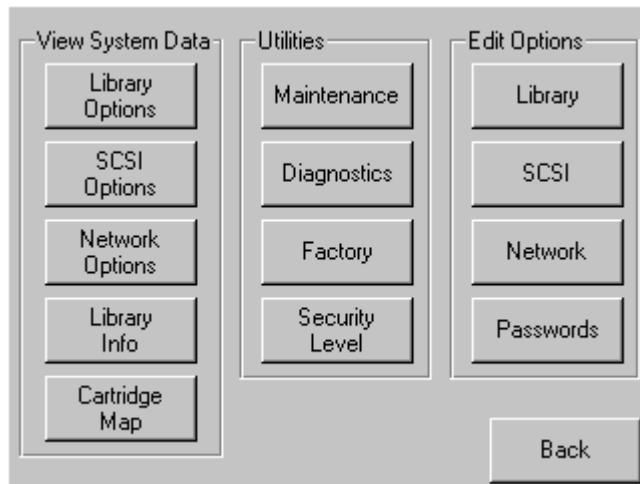

Figure 26: Menu screen
2. Touch the **Library** button from the **Edit Options** area of the GUI (see Figure 26).
2. Touch the **Library** button from the **Edit Options** area of the GUI (see Figure 26 on page 50).